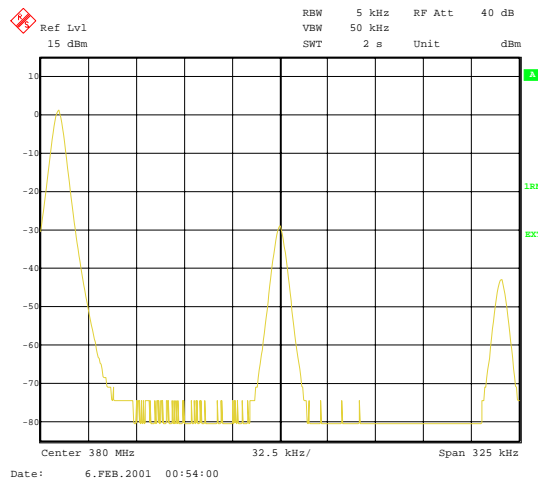

Figure 6. Unassigned Single Sideband Output
6) Set the DC levels at I_{SIG-} and Q_{SIG-} input pins to the nominal value (1.3V). The output spectrum should look similar to Figure 6.